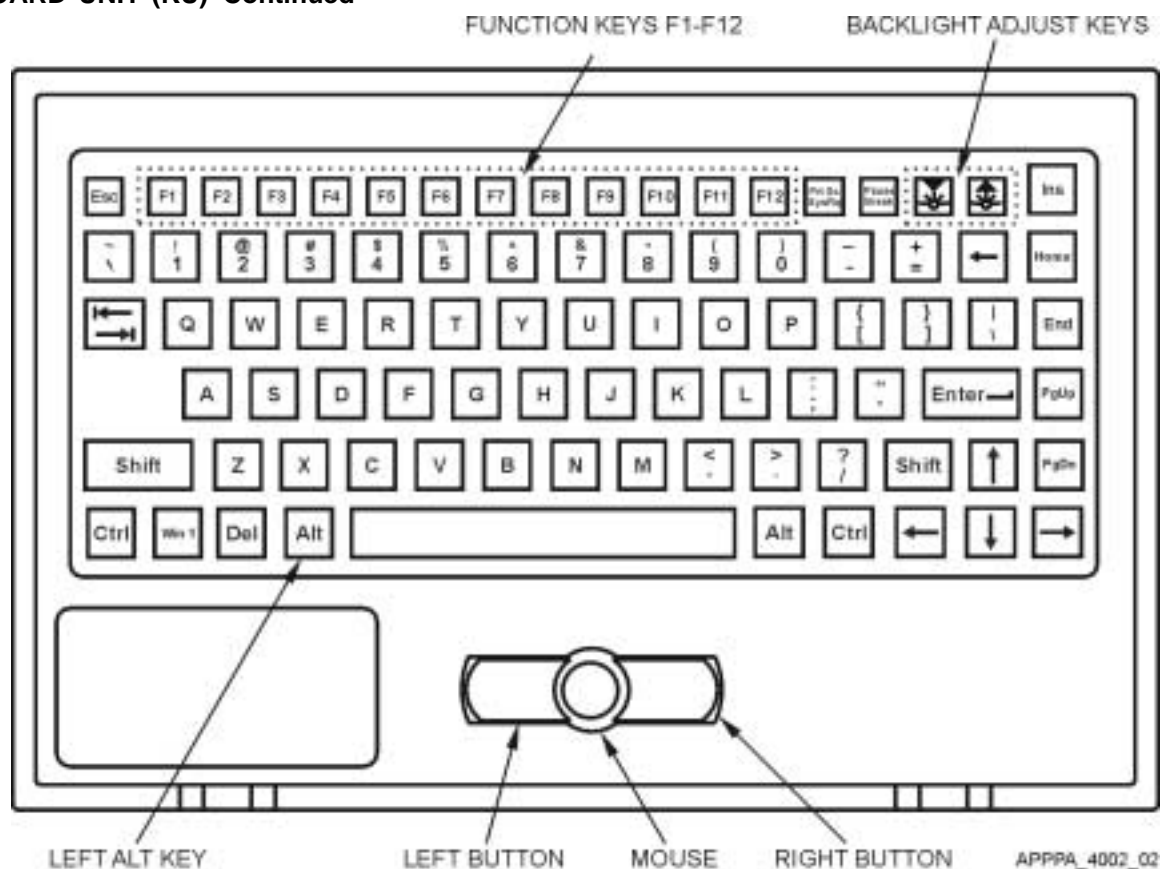

Figure 5. Keyboard Unit (KU) (NSN 7025-01-474-3791/NSN 7025-01-487-0581)
Backlighting. The Keyboard Unit (KU) is backlit for use at night. For the KU shown in this work package, Figure 4, the backlight adjust keys are adjustable from no-visible-backlight to maximum backlight by holding down the **BRT -** key to decrease backlighting or holding down the **BRT +** key to increase backlighting. For the KU shown in this work package, Figure 5, the backlighting is adjustable in six steps, from no-visible-backlight to maximum backlight.
Mouse Pointing Device. The mouse-pointing-device for Keyboard Unit (KU) shown in this work package, Figure 4, has the mouse button and three buttons located below it. The mouse pointer on the Keyboard Unit (KU) shown in this work package, Figure 5, has three parts, the left button, the right button and the mouse button. Each mouse pointer operates similarly and each has the same functionality. The left button selects an object or executes a function. Use the center button on the three-button mouse (or the left and right mouse buttons together on the two-button mouse) to move selected files from one folder to another. The right button opens Help in the "Messages" dialog boxes. Select a text box using the left button and then press the right button. This opens a small field, which shows the type of data entry field and the limits of the field. Mouse movement occurs by applying pressure on the edges of the center mouse button. Applying more pressure on the center mouse button causes the speed of the {Arrow Pointer} to increase. Apply pressure on the left side to move left. Apply pressure on the right side to move right. Apply pressure on the upper part to move up. Apply pressure on the lower part to move down. Pressing between the points described above causes the {Arrow Pointer} to move in diagonal directions.